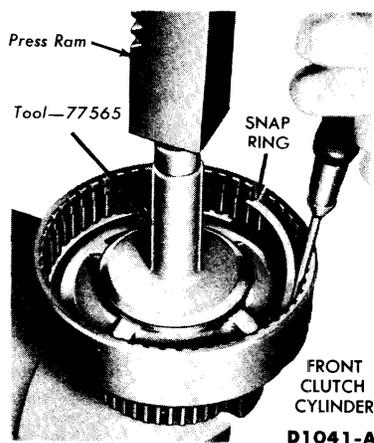

FIG. 14—Front Clutch Spring Snap Ring Removal
4. Place the front clutch spring compressor on the release spring, position the clutch drum on the bed of an arbor press, and then compress the release spring with the arbor press until the release spring snap ring can be removed (Fig. 14).
21. Position the release spring in the clutch cylinder with the concave side up. Place the release spring compressor on the spring, compress the release spring compressor with an arbor press, and then install the snap ring as shown in Fig. 14. **Make sure the snap ring is fully seated in the groove.**